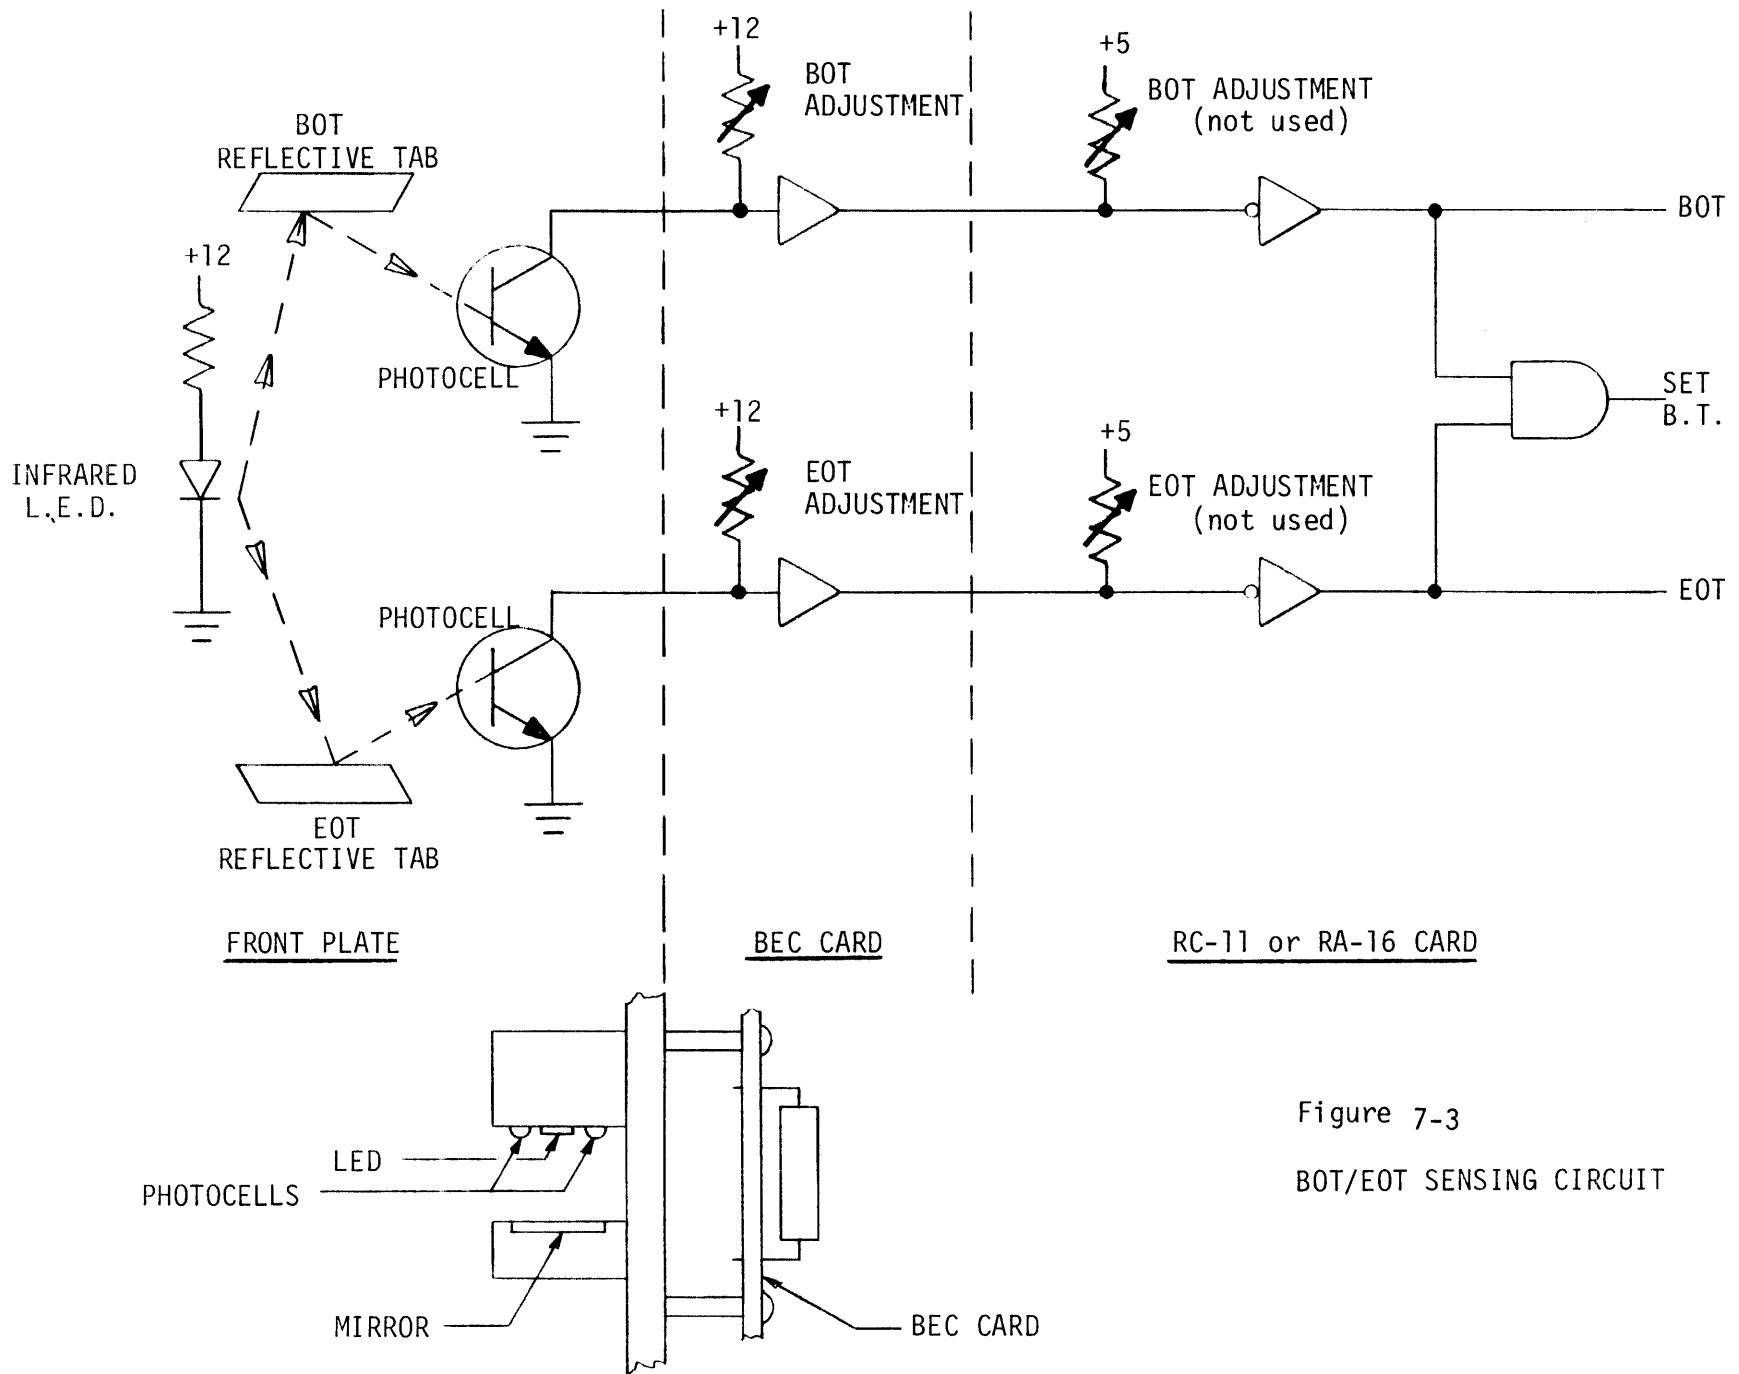

Figure 7-3
7.6 BOT/EOT SENSORS. The circuitry associated with "beginning-of-tape" and "end-of-tape" detection is located partly on a small p.c. board, designated BEC, which is bolted to the front plate behind the BOT/EOT sensor assembly. Refer to figure 7-3 or drawings SB-0028 and PCB-00693.